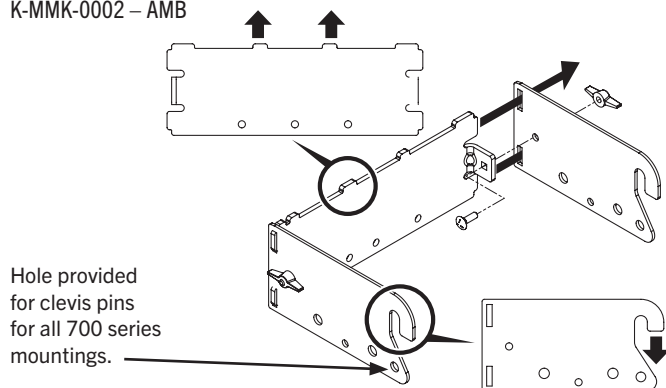

FIGURE 5 – STEP 2
2. Flip over assembly and mount hitch support bracket to universal support bracket using two Carriage Bolts (C-SCW-0016) and Wing Nuts (C-NUT-0018) from hardware pack K-HWK-0003, as shown in Figure 5.